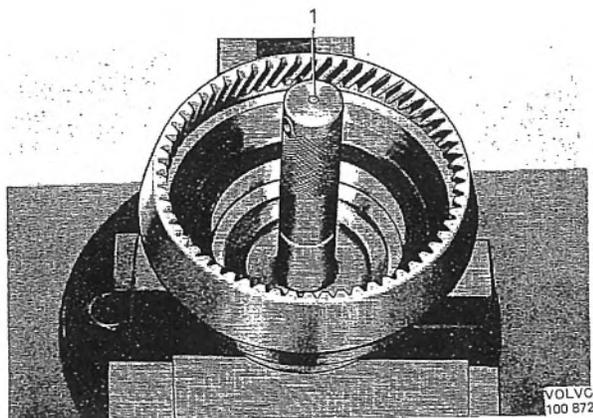

Fig. 4-42. Installing bush, output shaft
1. Push the bush on to the output shaft with drift 2417, see Fig. 4-42. Press the front bearing to the output shaft with drift 2412.